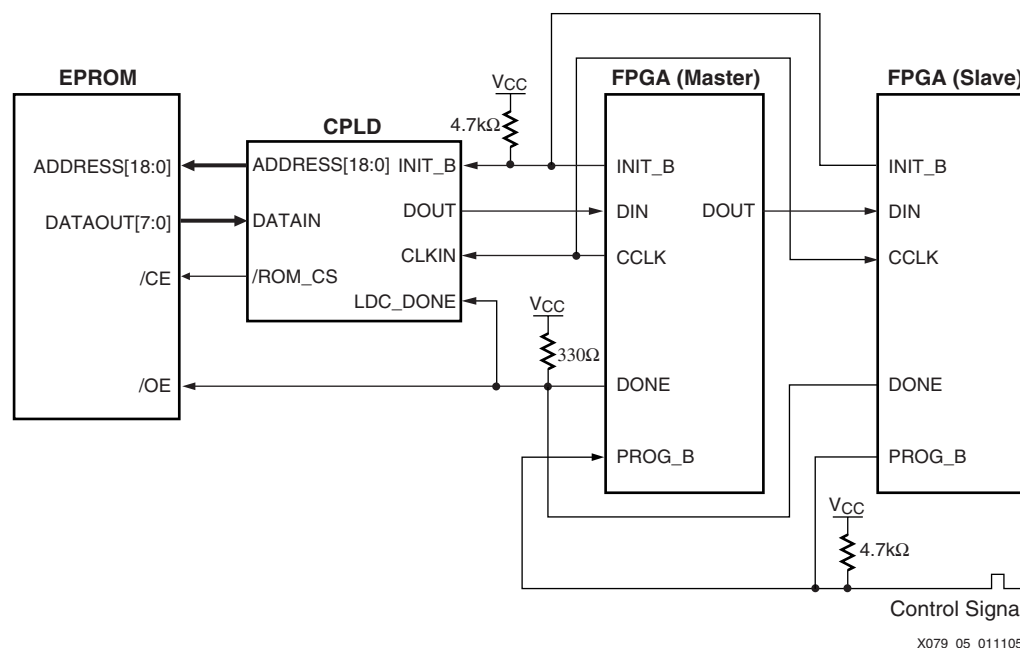

Figure 4-5: Configuring Virtex-II Using a CPLD and Parallel PROM
- XAPP079:** *Configuring Xilinx FPGAs Using an XC9500 CPLD and Parallel PROM* (available on www.xilinx.com) describes an architecture that configures a chain of Virtex-II devices using Master-Serial mode. See Figure 4-5 for an example of FPGA configuration using a CPLD and a parallel PROM.